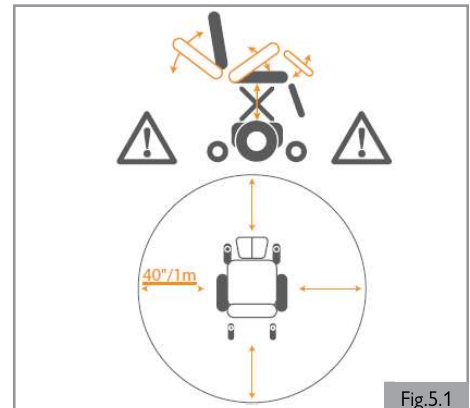

Fig.5.1
- As with all moving parts, ensure you do not trap your fingers (Fig. 5.1)